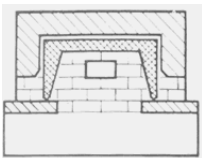

Fig 1: Hearth Plan at Floor Level
Step 1: Finish the foundation with a layer of firebrick upon which to set the Circulator Unit. The firebrick should extend beyond the Circulator at the sides and back and be at least flush with the front of the Circulator. If the fireplace is to have an ash pit, the ash dump should be put in at the time of the firebrick base is laid. Do not lay firebrick up into the metal firebox of the Circulator. (See Figure 1.)